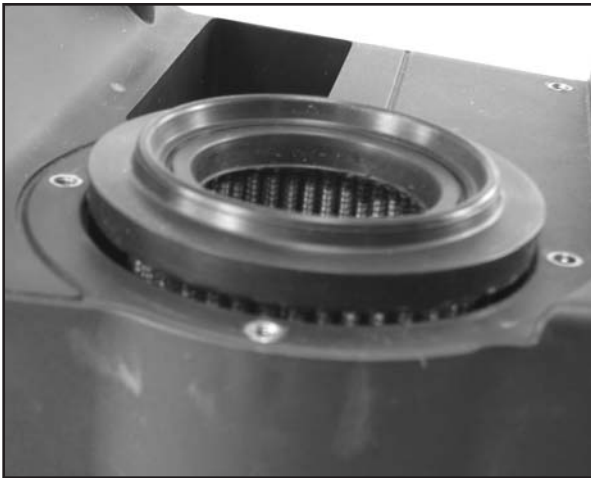

Fig. 1
2. Install the K&N Air Filter with the raised seal bump facing up. (Fig. 1)